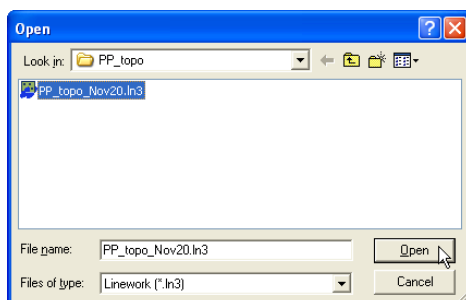

Figure 4-4. Open 3D Linework File
2. On the **Open** dialog box, navigate to the location of the file, select the file type as Linework (*.ln3), select the desired file, and click **Open** (Figure 4-4).